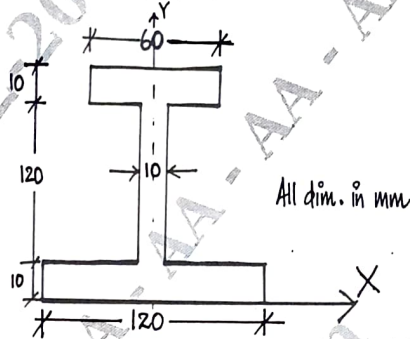

Fig Q1(b)
- b. Locate the centroid for the following Fig Q1(b)